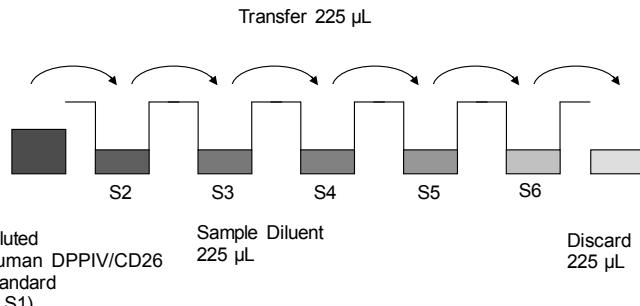

Fig. 6 Dilute standards - tubes
- Repeat serial dilutions 3 more times thus creating the points of the standard curve (see Figure 6).